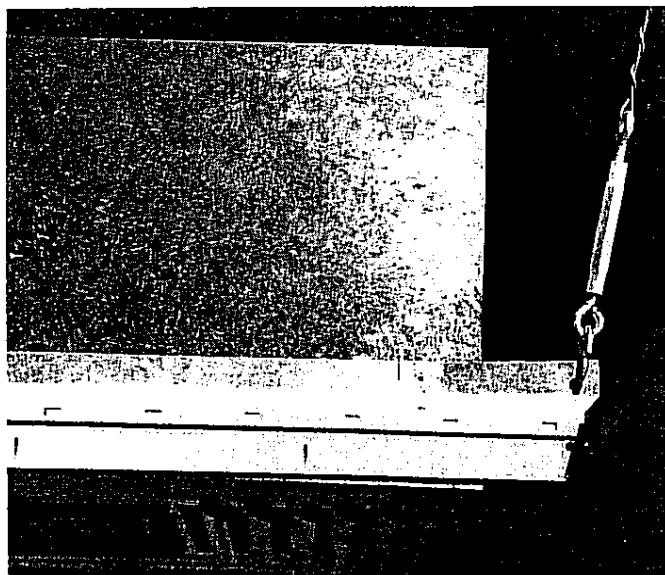

FIG. 1
5. Position the air cleaner so that the plastic face overlaps the T-bar $\frac{1}{4}$ " on every side, then tighten the turnbuckles until the top side of the plastic just touches the bottom of the side of the T-bars. (Fig. 1)